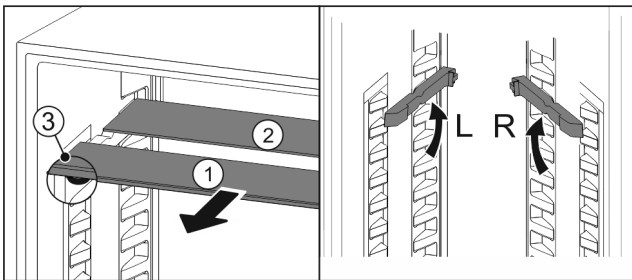

Fig. 96
- ▶ Pull the glass panels out Fig. 96 (1) from the front, one at a time.
- ▷ The glass panel Fig. 96 (1) and trim strip are at the front.
- ▷ The stops Fig. 96 (3) point down.